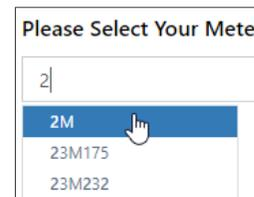

Figure 35: Selecting a 3M meter to test
- In the **Meter Name** field, enter text that is in the meter name. A list displays the options based on the text entered. For example, Figure 35 shows the results of entering **2** in the **Meter Name** field.